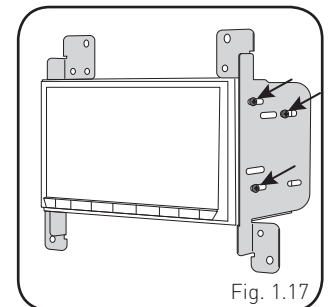

Fig. 1.17
16. Mount the metal brackets to the aftermarket radio using the screws supplied with the radio. (Fig. 1.17)